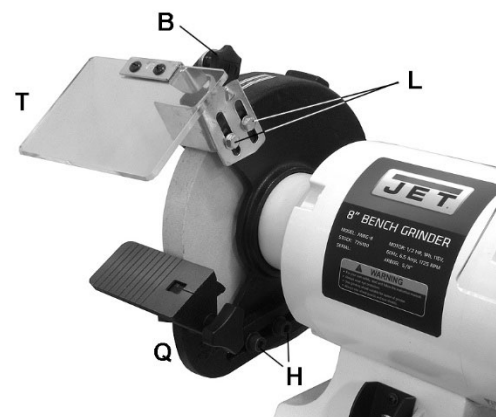

Figure 8: eye shield and tool rest adjustment
1. Loosen lock knob (B, Figure 8).
2. Adjust eye shield (T) to desired tilt angle.
3. Tighten lock knob (B).
1. Loosen two hex cap screws (L, Figure 8) with a 10mm wrench.
3. Tighten screws (L).
1. Loosen two hex cap screws (H, Figure 8) with a 12mm wrench.
2. Slide tool rest bracket (Q) as needed.
3. Tighten screws (H).